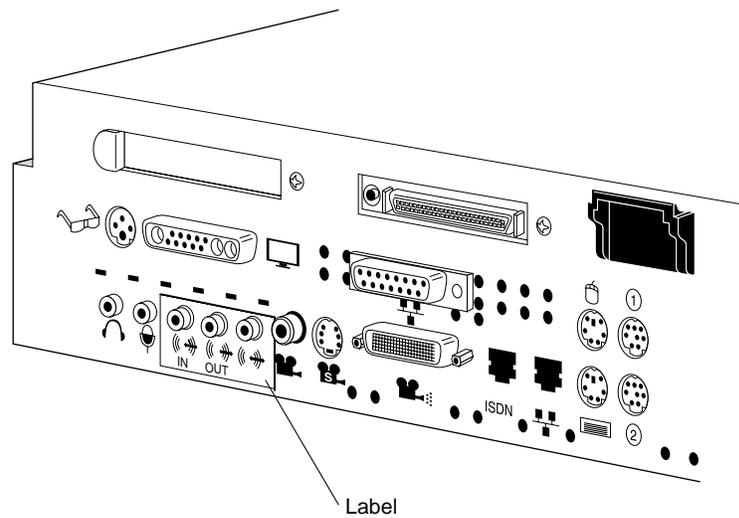

Figure 3-7 Attaching the Label Over the Audio Ports
9. Attach the small audio label that comes with this package over the ports shown in Figure 3-7 on the rear of the chassis. The icons on the label will help you identify where to connect the audio cable in the next step.